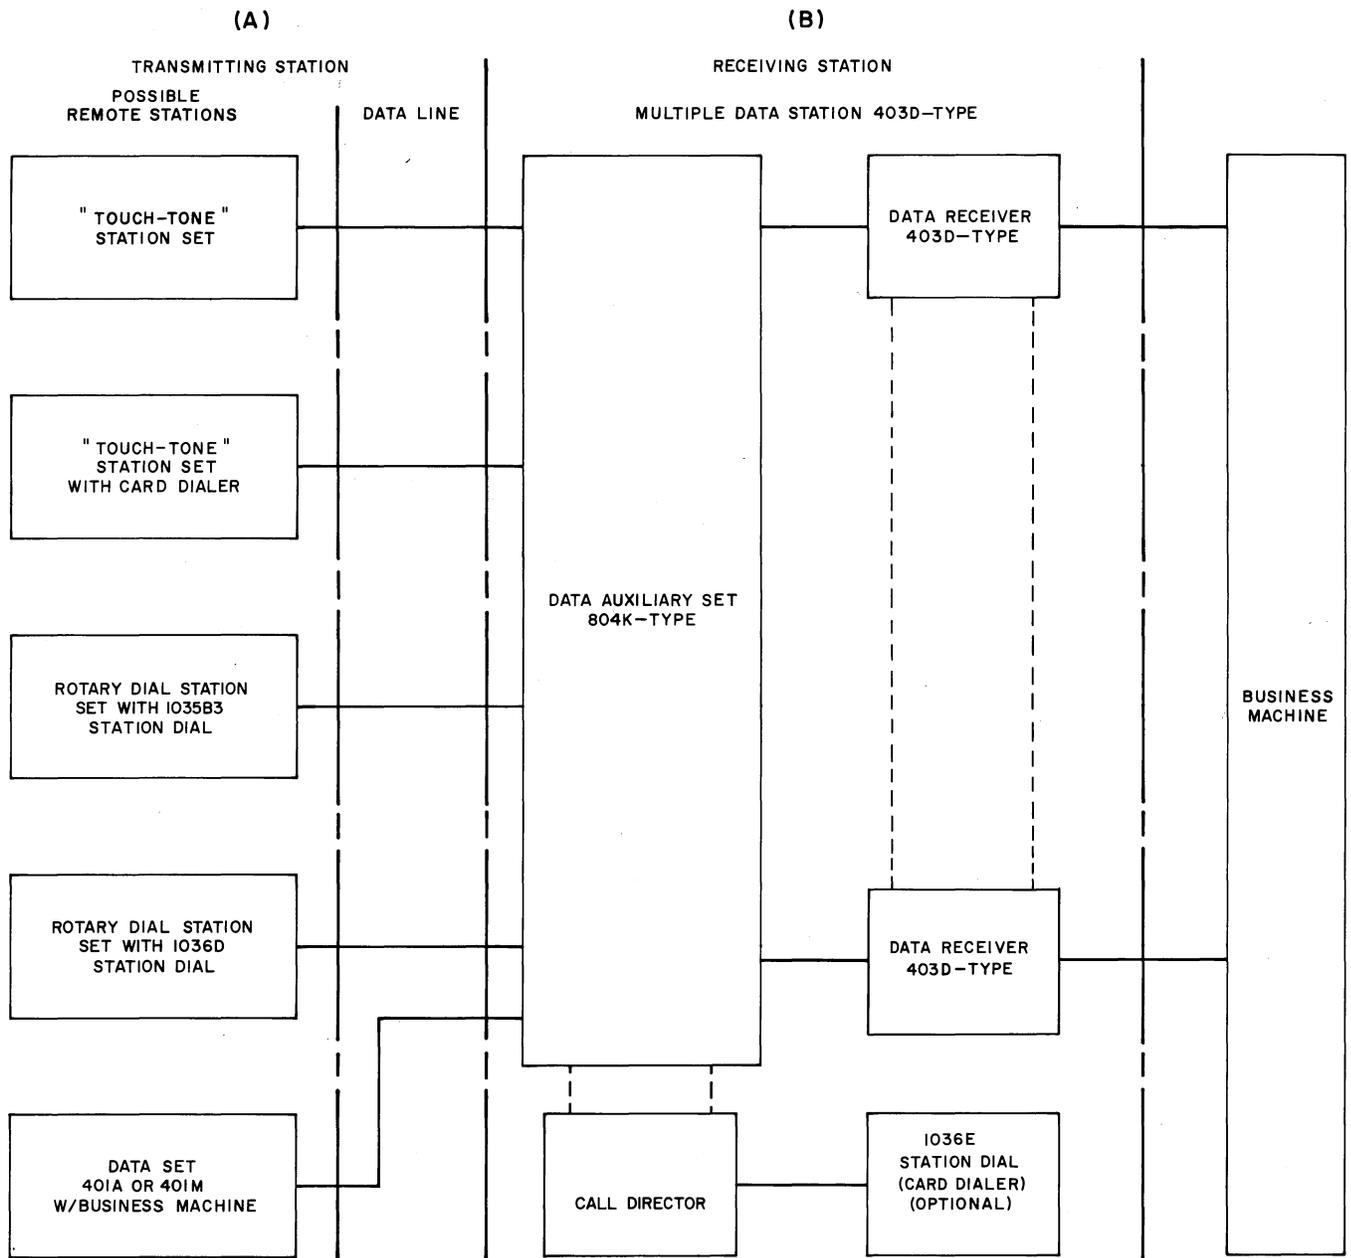

Fig. 7—Block Diagram of Data Set 403D-Type Multiple Data Set Station Operation
4.07 Data set operation for a typical multiple data set installation is described in Table E and shown in Fig. 7.